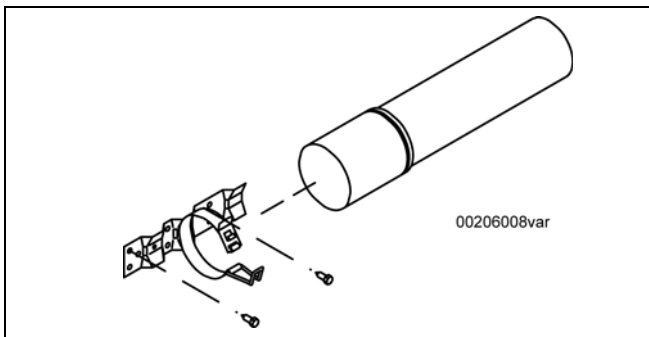

Figure 47. Clamp-Style Manual Tube Assembly
1. Mount the tube clamp to the inside of the shredder side sheet using two 1/4" self-tapping screws (Figure 47). Mounting holes are located above the bearing plate.